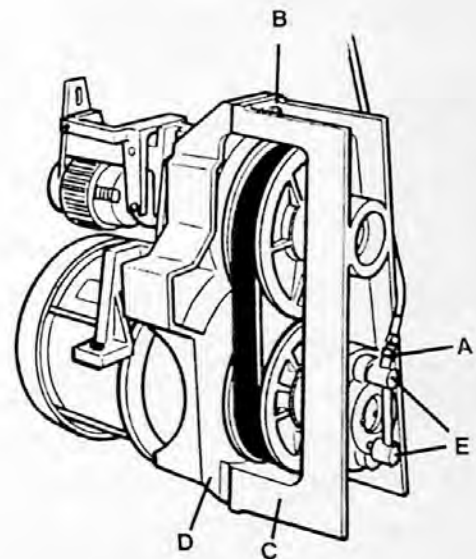

FIGURE 28
8. Disconnect hydraulic hose (A, figure 28).
9. Remove four capscrews (B). Separate right housing (C) from left housing (D).